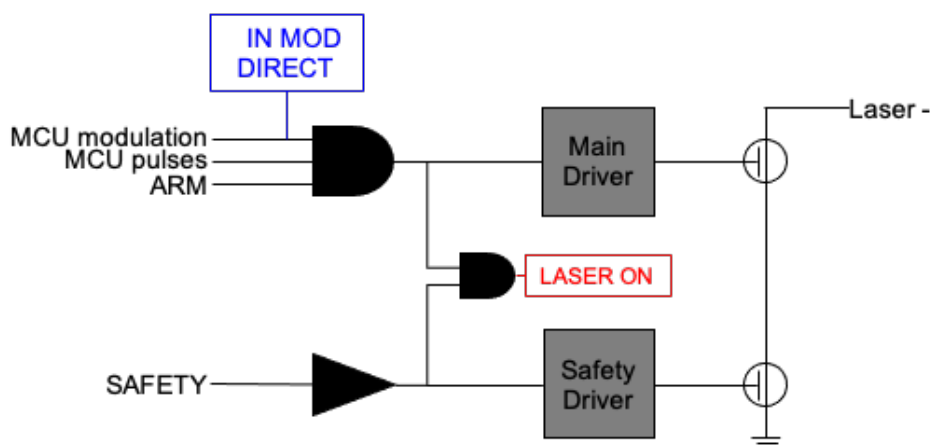

Figure 6.3: Simplified driver connection schematic
- IN\_ARM Interlock for the main gate driver. Schematized in Fig. 6.3
- IN\_SAFETY Interlock for the safety gate driver. Schematized in Fig. 6.3
The pulse settings defined in the GUI are output from the microcontroller and input to the driver. The driver itself consists of two identical arms, referred to as SAFETY and ARM, both of which must be enabled for laser output. When this is the case, the OUT\_LASER\_ON pin effectively provides a TTL signal with the modulation input to the transistor drivers. Fig. 6.3 depicts the parallel driver chips, OUT\_LASER\_ON signal, as well as the optional external modulation input IN\_MOD\_DIRECT as described in Sec. 6.2 below.